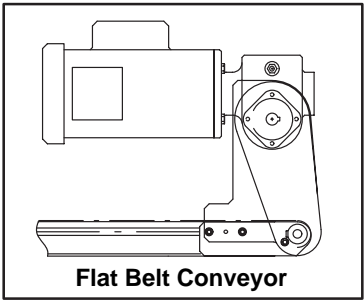
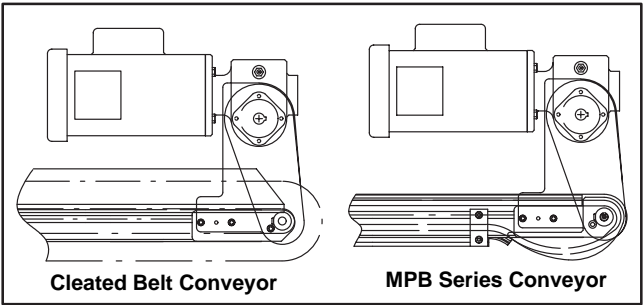

Figure 2
Figure 3
Gearmotors must be mounted as shown in Figure 2 and Figure 3.
*Gearmotor position on Flat Belt conveyors shown in Figure 2. Gearmotor position on Cleated Belt and MPB Series conveyors shown in Figure 3.*